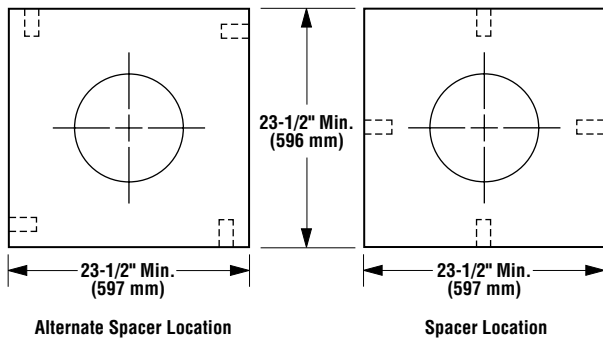

Figure 3
Step 2. Secure the flashing spacers to the top of the chase, using 8d nails, in the manner shown in *Figures 3 and 4*. (Spacers are shipped with the terminations.)